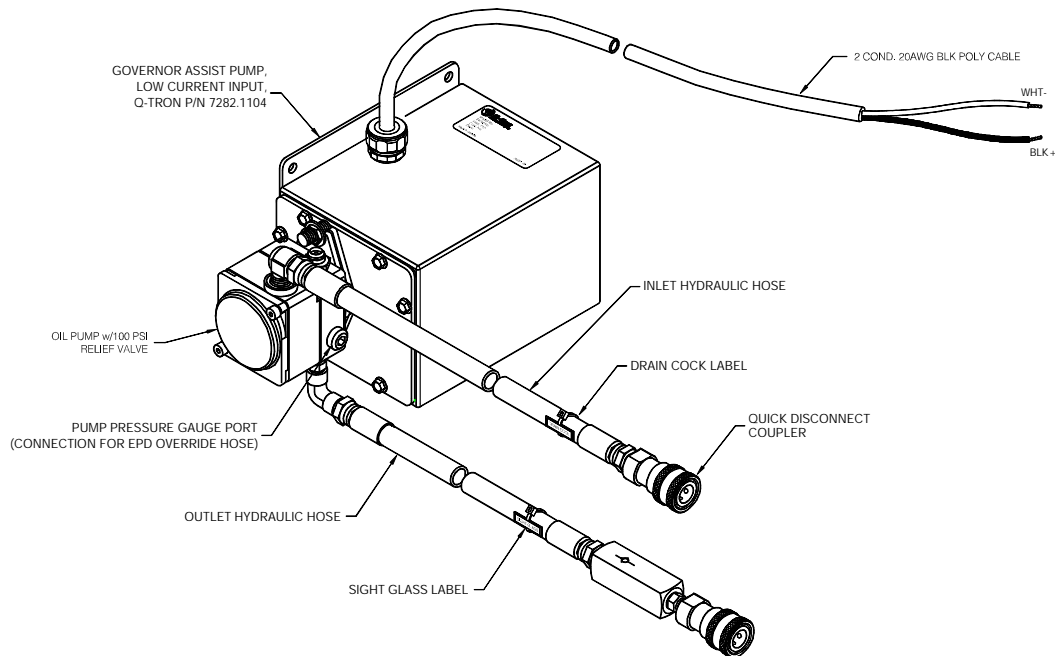

Figure 2. Governor Assist Pump assembly
2. Connect the Outlet Hydraulic Hose to the Governor Oil Pressure Port. Refer to Figure 2 for further connection information.
3. Connect the Inlet Hydraulic Hose to the Governor Sump Port. Refer to Figure 2 for further connection information.